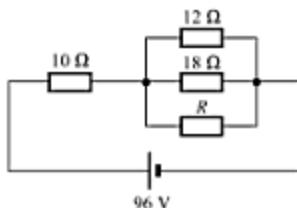

Fig. 2.40
14. Determine the value of resistance R , if the power dissipated in 10-ohm resistance is 360 W in the circuit of Fig. 2.40. [Ans. 36 Ω]